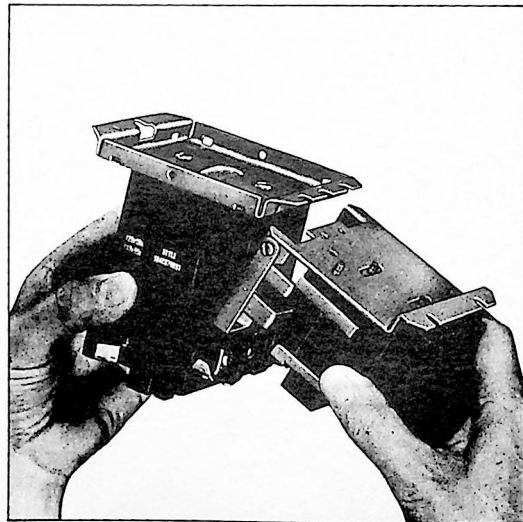

Figure 2 - Assembly and Installation of Latched A/200 Contactors
2. Position the contactor and latch units with the lower side of the contactor (side with three slots in the mounting plate) toward the latch unit as shown in Figure 2.
3. Insert the top portion of the latch rocker into the cavities at the lower side of the contactor, as shown in Figure 2.